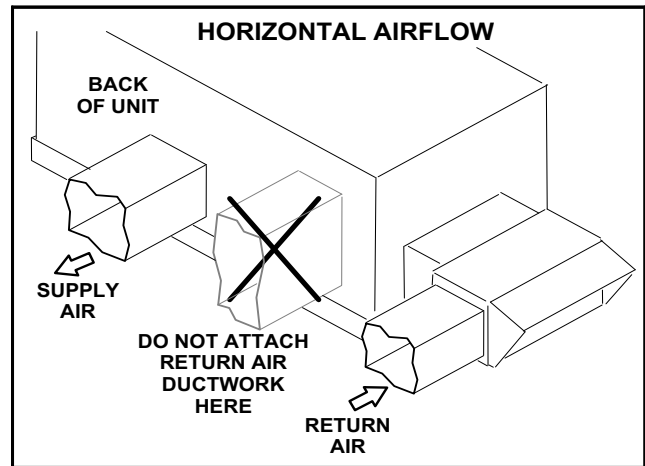

FIGURE 31
- 3- Make sure the horizontal return air cover on the back side of the unit remains in place. The opening is used when an economizer is not installed. See figure 31.